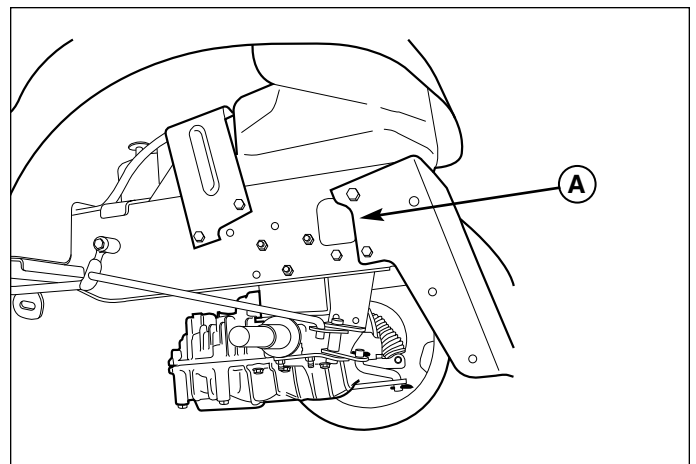

**Figure 30. Blade Installation - 54" Mowers**
**54” Mowers:** Remove the capscrew (D, Figure 30), spring washer (C), spline washer (B), and blade.
**54” Mowers:** Reinstall the spline washer (B, Figure 30), spring washer (C) and capscrew (D). Use a wooden block (A) to prevent blade rotation while tightening the capscrew (D) to 61-75 Nm (45-55 ft-lbs).